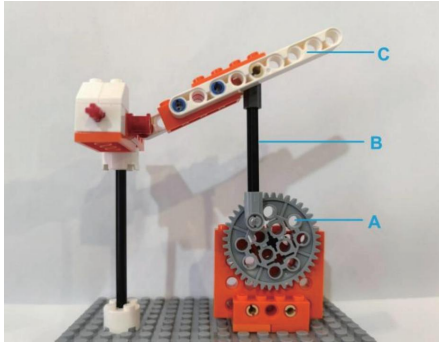

Figure 1-3
As shown in Figure 1-3, when the driving part gear (A) rotates, it moves the connecting rod (B), which then makes the driven part (C) swing up and down like a bird flapping its wings.